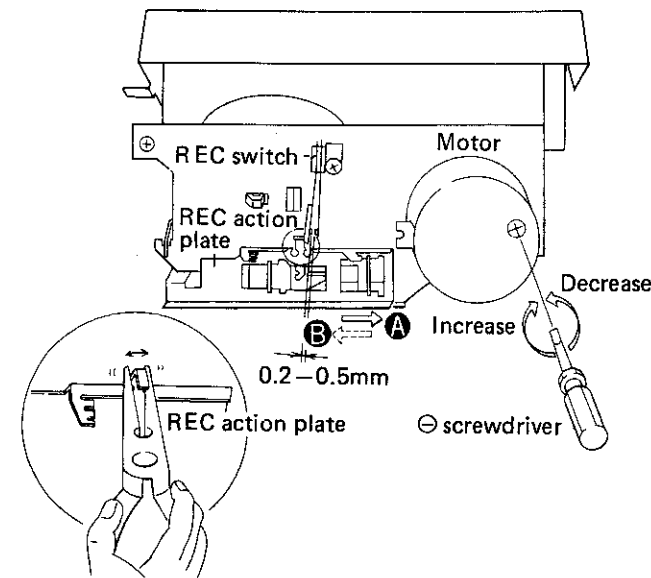

Fig. 12-2 Tape speed and REC switch adjustment
2. Playback the 3kHz portion of the STD-301 test tape. At the beginning, the frequency should be lie within the 3000Hz ~ 3010Hz range, and may be adjusted by turning the semi-fixed resistor located in the motor adjustment hole as shown in Fig. 12-2.